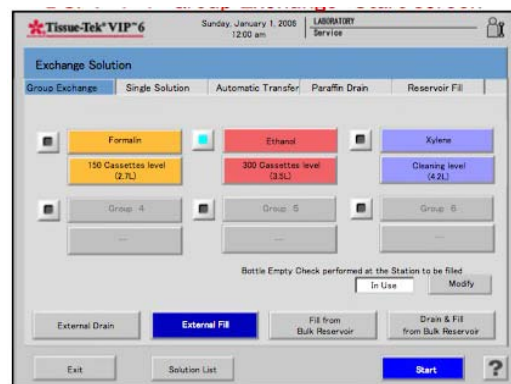

Figure 3-WWW
- The Exchange Solution screen displays (Figure 3-WWW).